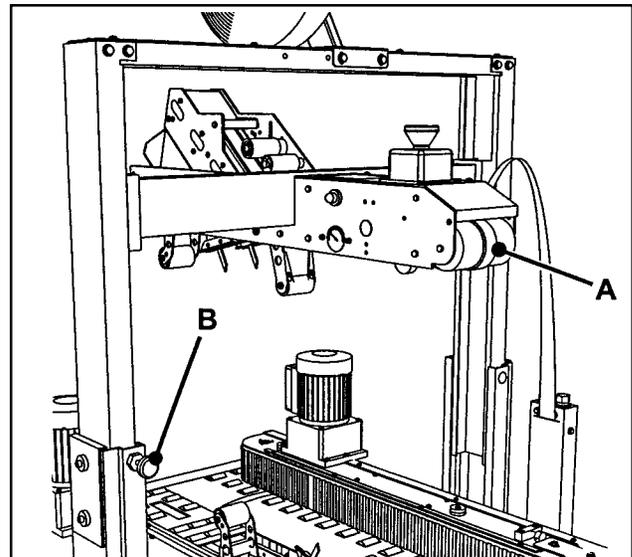
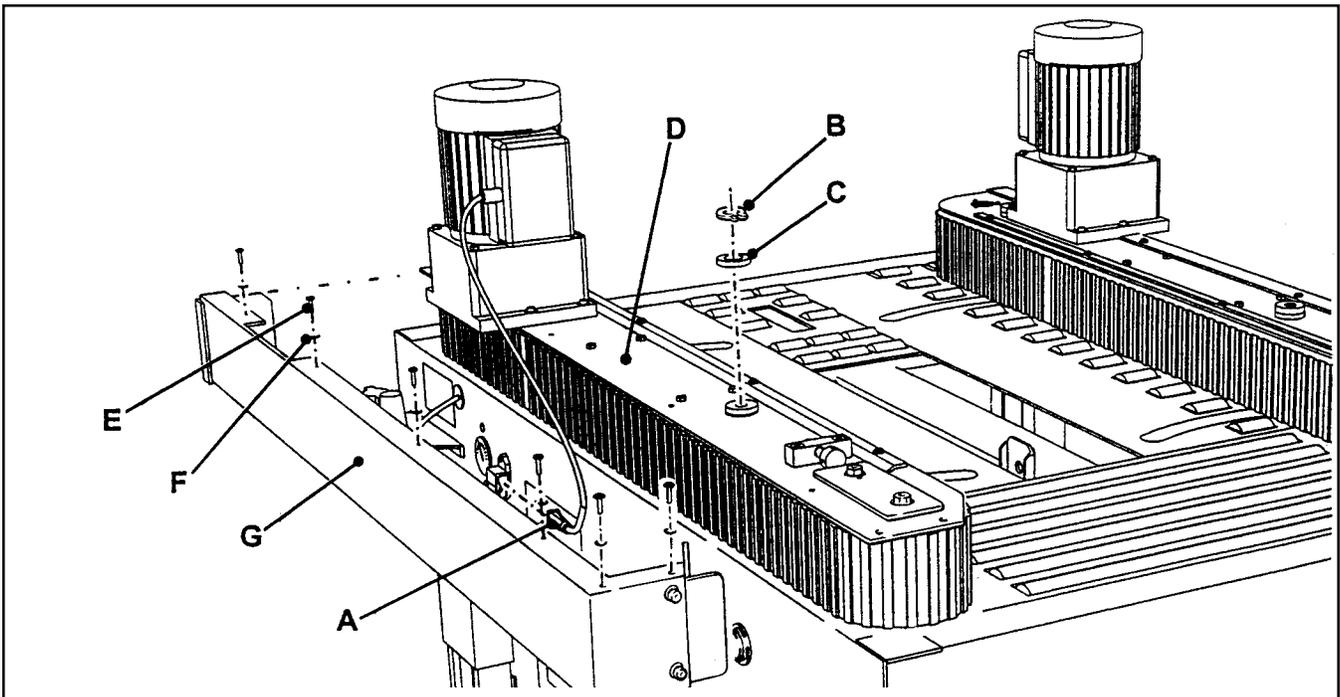

Figure 3-6 – Latching Knob, Upper Taping Head Frame
Figure 4-2 – Box Drive Belt (Left Side View – Infeed End)
11 Latching Knob, Upper Taping Head Frame – Figure 3-6
3. Push and hold the latching knob (B). Figure 3-6, page 16.
4. Release switch (A). Knob (B) will lock the upper head assembly in the upper position.
6. Disconnect motor plug (A). Figure 4-2.
7. Remove and retain snap rings (B) and special washer (C) from front and rear arm assembly pivots. Figure 4-2.
8. Lift side drive assembly (D) up and off arm assembly pivots. Figure 4-2.
9. Remove and retain the four screws (E), washers (F) and side cover (G). See Figure 4-2.